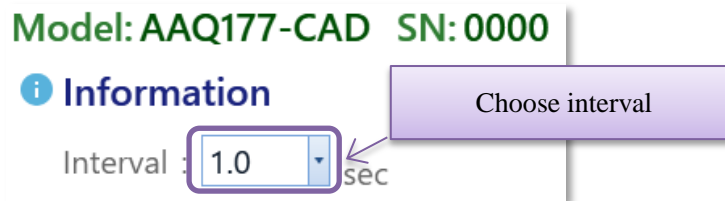

Figure 6.10 Choosing interval
(1) Choose interval length you wish to use for your measurement. (Figure 6.10)